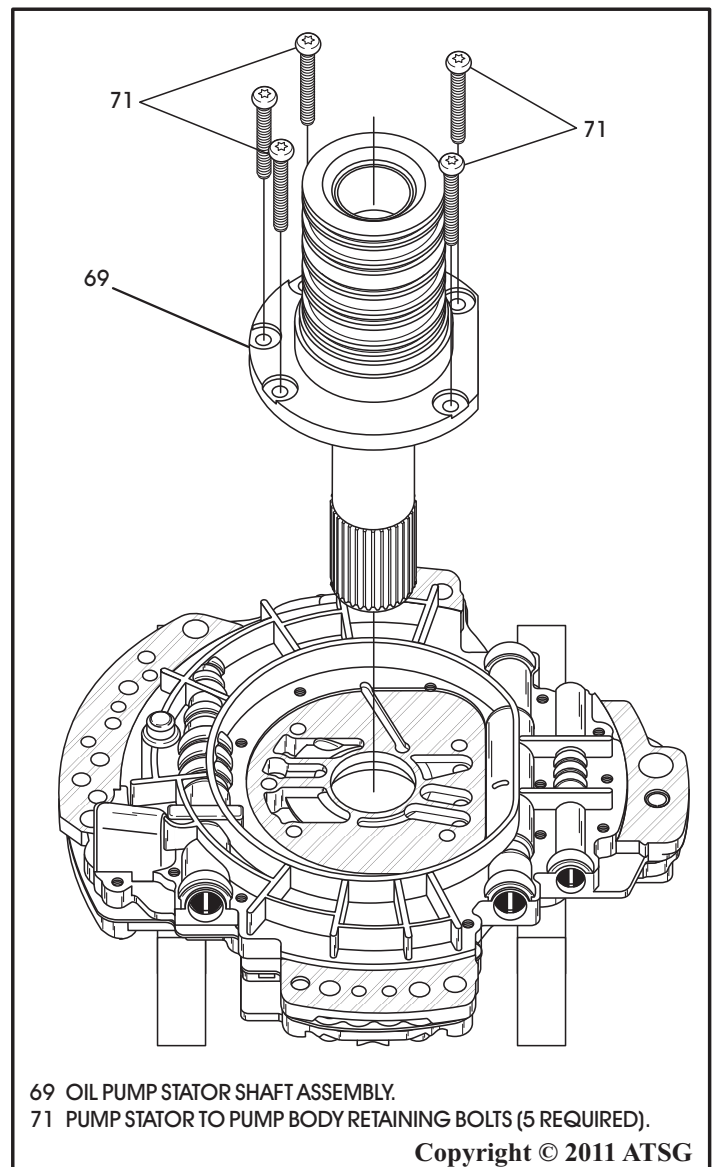

Figure 117
16. Install the stator shaft support into the oil pump assembly resting on blocks, as shown in Figure 117.
17. Install the five stator support bolts, as shown in Figure 117, and torque to 12 N·m (105 in.lb.).